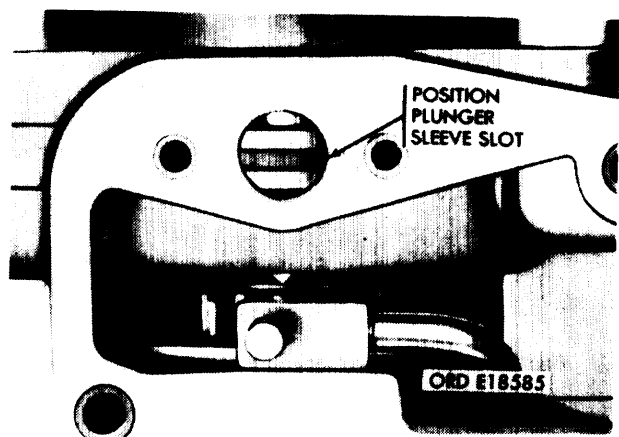
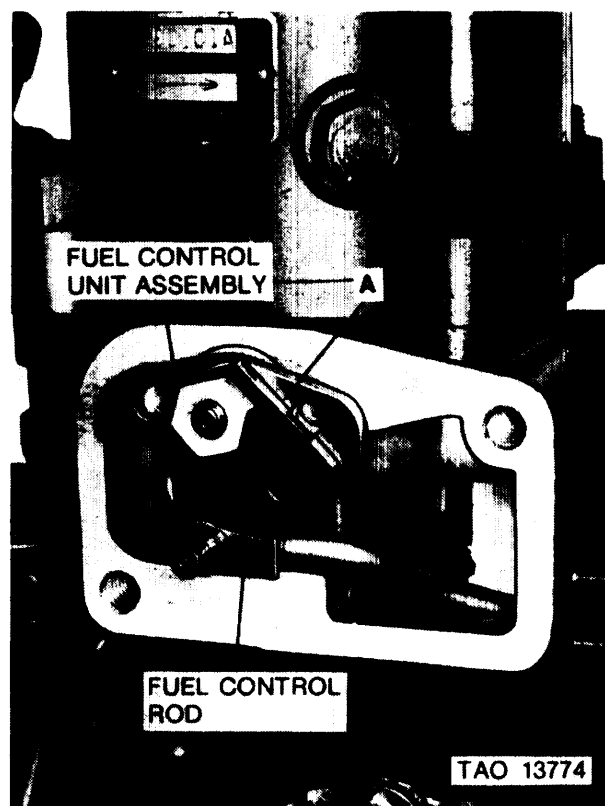

Figure 3-148. Location of plunger sleeve slot.
Figure 3-149. Correct installation of control unit in plunger sleeve dot.
a. Refer to figure 3-148. Position plunger sleeve slot at bottom of travel, as shown, by pressing down on sleeve. The fuel control unit lever must be in an idle position before inserting plunger sleeve pin into plunger sleeve slot.
b. Refer to figure 3-149. Install fuel control unit assembly with new preformed packing, so that plunger sleeve pin (A, fig. 3-47) engages plunger sleeve slot (fig. 3-148). To check for engagement operate lever back and forth. Lever should move through about a 50° angle between and below retainer mounting holes. If this movement occurs, pin is engaged in sleeve slot. If not, remove and reinstall control unit and engage plunger sleeve pin in plunger sleeve slot.